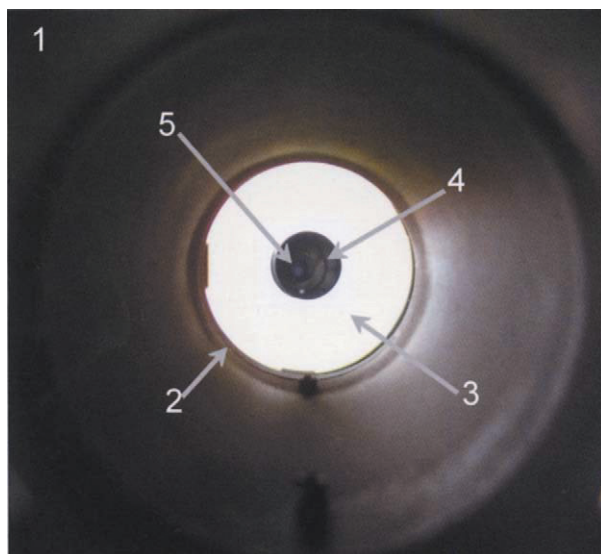

Figure 11.4. Internal elements of the OTA seen through the focuser.
2. Look through the focuser with the eyepiece removed. You will see reflections of the OTA internal components (Figure 11.4). Note that the secondary mirror position is deliberately offset away from the focuser and towards the primary mirror. This offset is the normal configuration for short focal length instruments like the SNT.